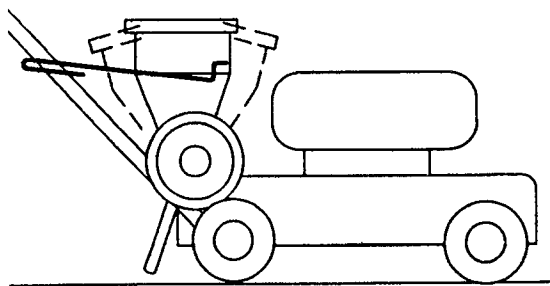

Figure 52
8. Adjust the hopper so it is level and tighten the handle knob securely to lock the hopper in place (Fig. 52).